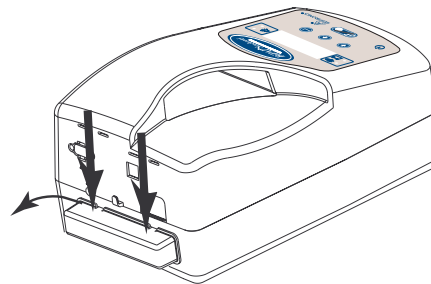

Figure 7-1 Removing the Air Filter Cover
- Step 2** As shown in Figure 7-1, remove the filter panel by pressing down on the top of the panel to release the tabs, then swinging the panel out from the Synchrony's body.